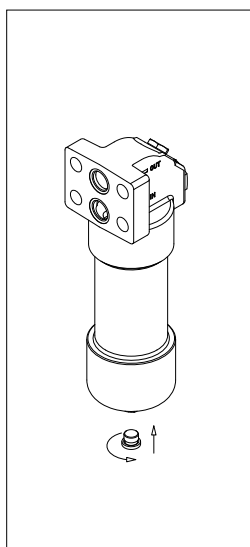

fig. 3
- (Fig. 3) Screw the drain plug in referring to the tightening torque table in paragraph 3